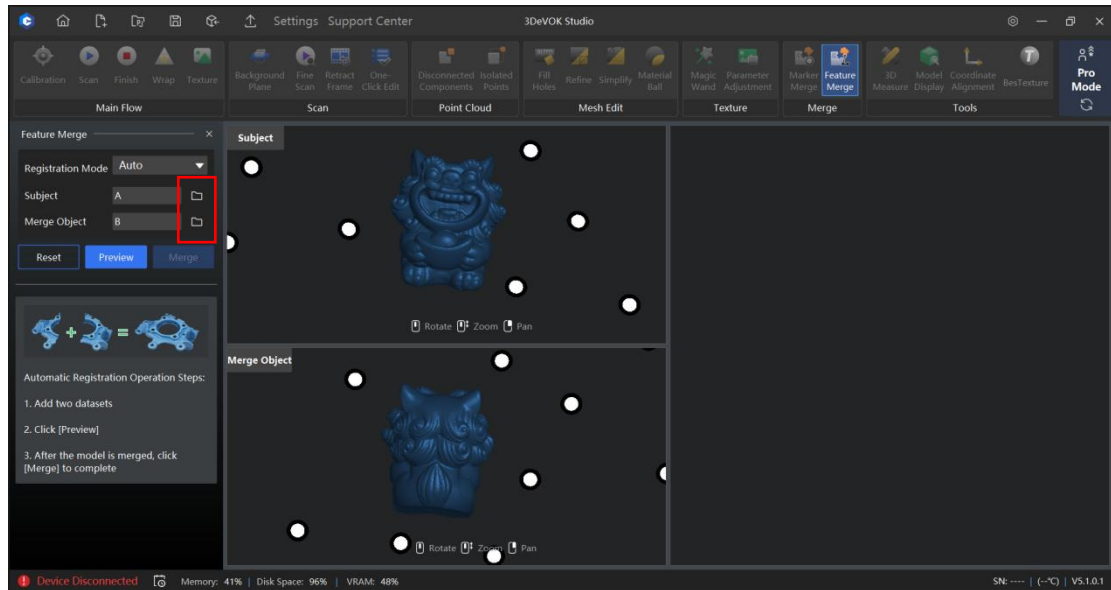

Figure 9-2 Import Point Cloud Projects in Feature Merge
3. Import the target point cloud projects (Project A and Project B) into the dual-view workspace by clicking the import button (highlighted in red frame), which is shown in Figure 9-2.